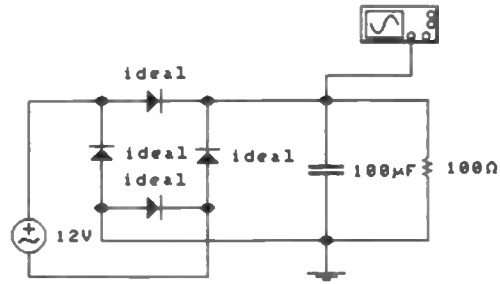

Fig. 3.32 Bridge rectifier with reservoir capacitor (Assignment 3.4).
5. Add a 100μF smoothing capacitor to the output of the bridge rectifier (as in Fig. 3.32). Once again display the output waveform and note its shape. Record the peak-peak ripple voltage in Table 3.4.